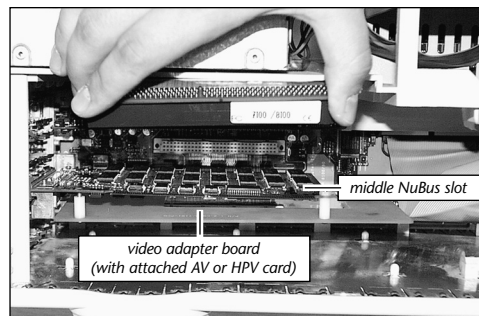

Figure 42: Install adapter board into middle NuBus slot
15. If you are reinstalling any NuBus cards, first install a NuBus card into the NuBus slot closest to the power supply. Then, align the video adapter board over the **middle NuBus slot** on the logic board with the inverted AV or HPV card on the adapter board facing toward the power supply (**Figure 42**). Verify the adapter board lines up with the inline NuBus guides of the 8100's case. Gently press down on the adapter board (not directly on the AV or HPV card) until the adapter board is firmly seated in the middle NuBus slot. If you encounter excessive resistance, check for bent connector pins, re-align the adapter board over the middle NuBus slot, and gently press down again. If you have a second NuBus card to install, install it into the outer NuBus slot.